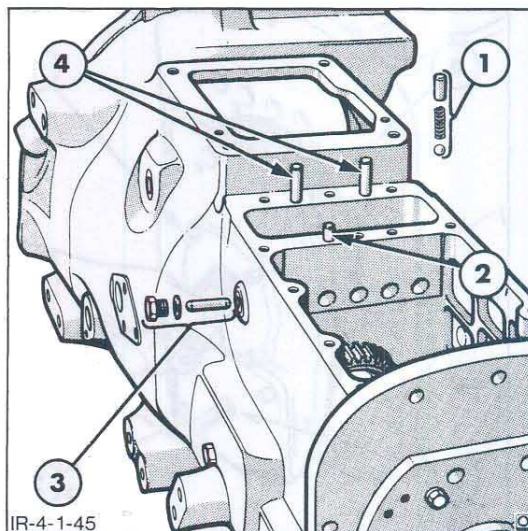

Figure 65
6. Insert the safety start switch plungers into their respective bores, Figure 65. Insert the gearshift rail balls, springs and detents into their respective bores, Figure 65.